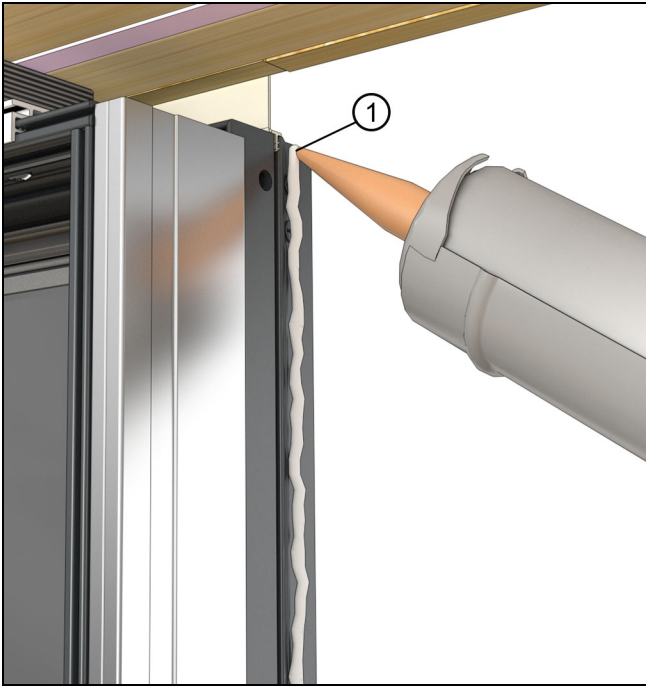

Figure 4
1. Apply a continuous 1/4" (6) bead of sealant along the length of the frame. See Figure 4.